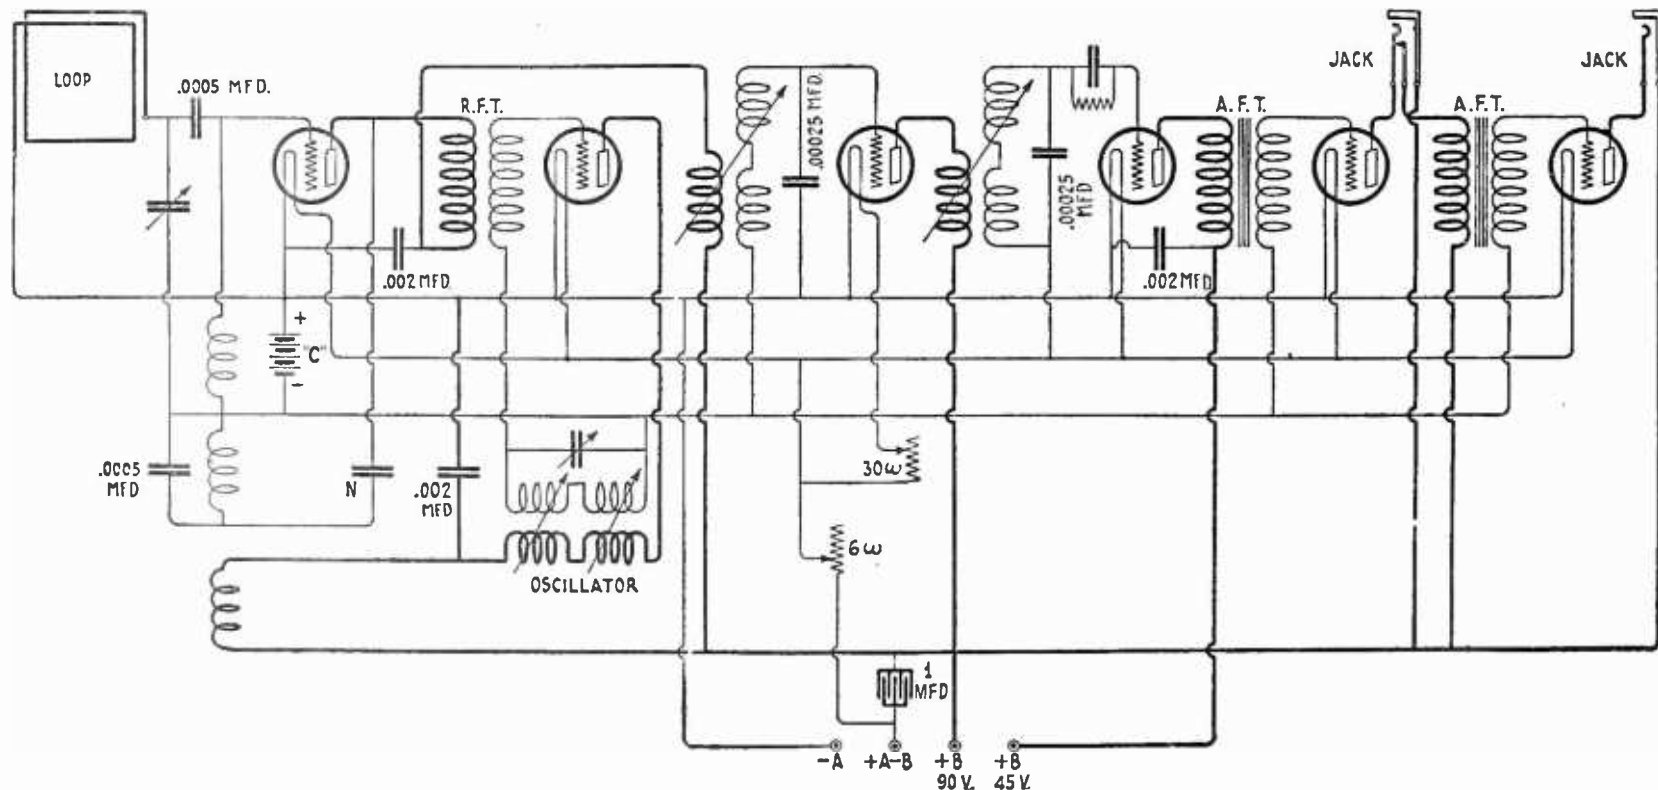

FIG. 6
**W**ITH the foregoing explanations, the circuit diagram, Fig. 6, may be easily understood. It is not essential that the apparatus be mounted as closely as shown in the photographs, but it is absolutely necessary to keep all grid and plate leads as short as possible and remember that the fixed condensers are bypassing objectionable radio frequencies back to the tube where they come from. Keep these condenser wires short and direct.